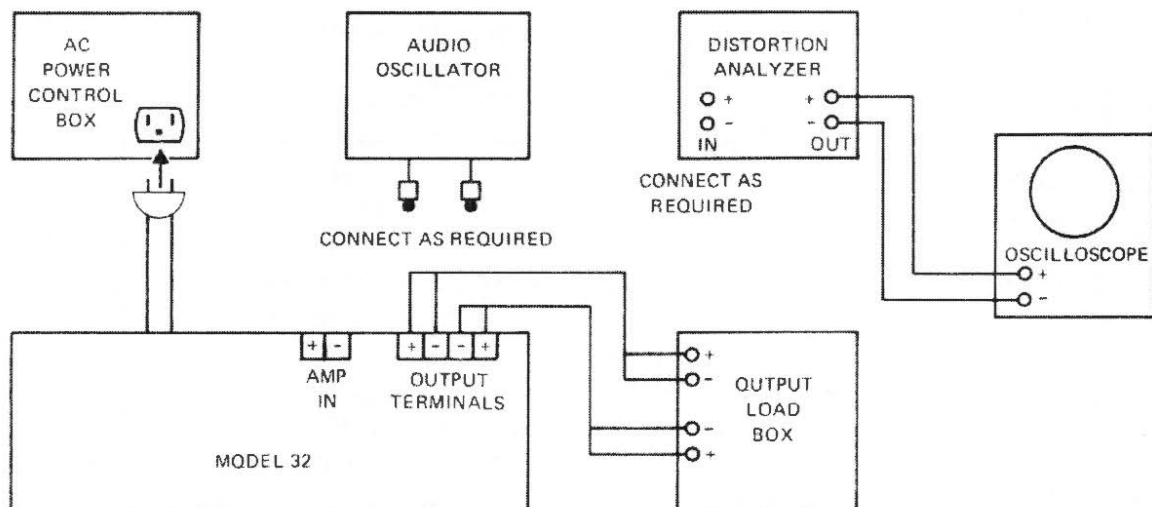

Figure 5. Test Equipment Set-Up.
1. Set up the test equipment as shown in Figure 5, with the instrument controls set in the following positions: